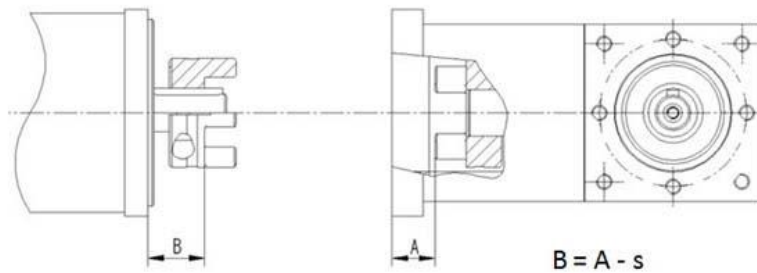

Figure 17: Assembly of a servo motor
- Measure dimension A on the gearbox Figure 17